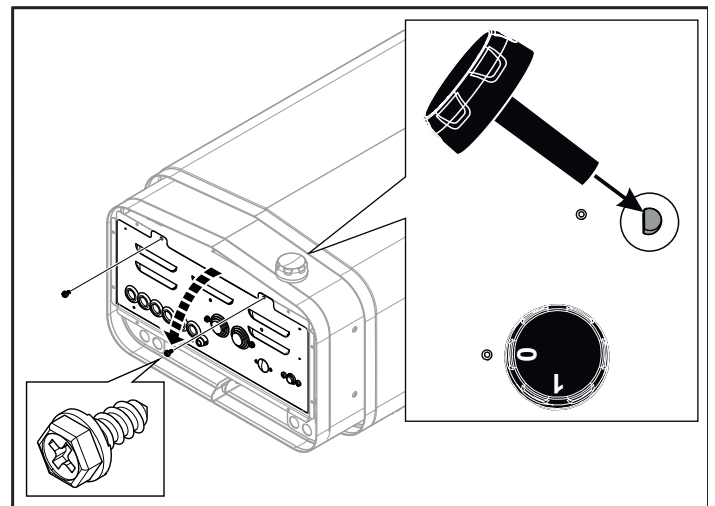

Figure 8: Opening/closing the cover
1. Lay the heater down with the front facing upwards. Install the knob (see Figure 8).
2. Undo the screws and open the cover (see Figure 8).
7. Close the cover and tighten the screws (see Figure 8).